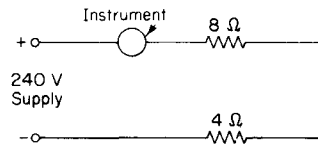

Fig. 2.106
34. Find the reading of the instrument shown in Fig. 2.106.